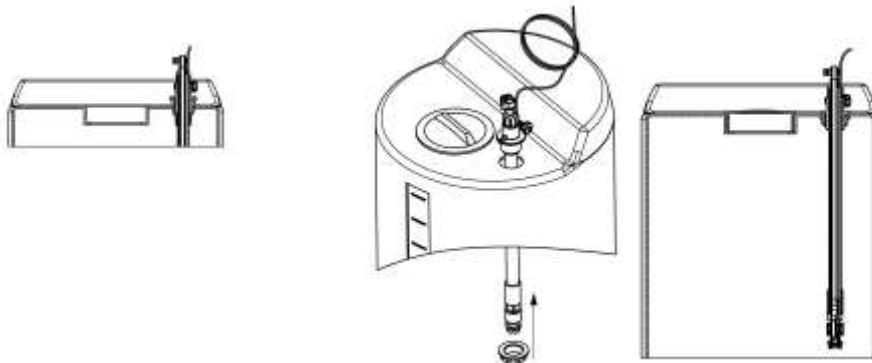

Fig. 4
- from inside the tank until the lance reaches the bottom of the tank (Fig. 4).